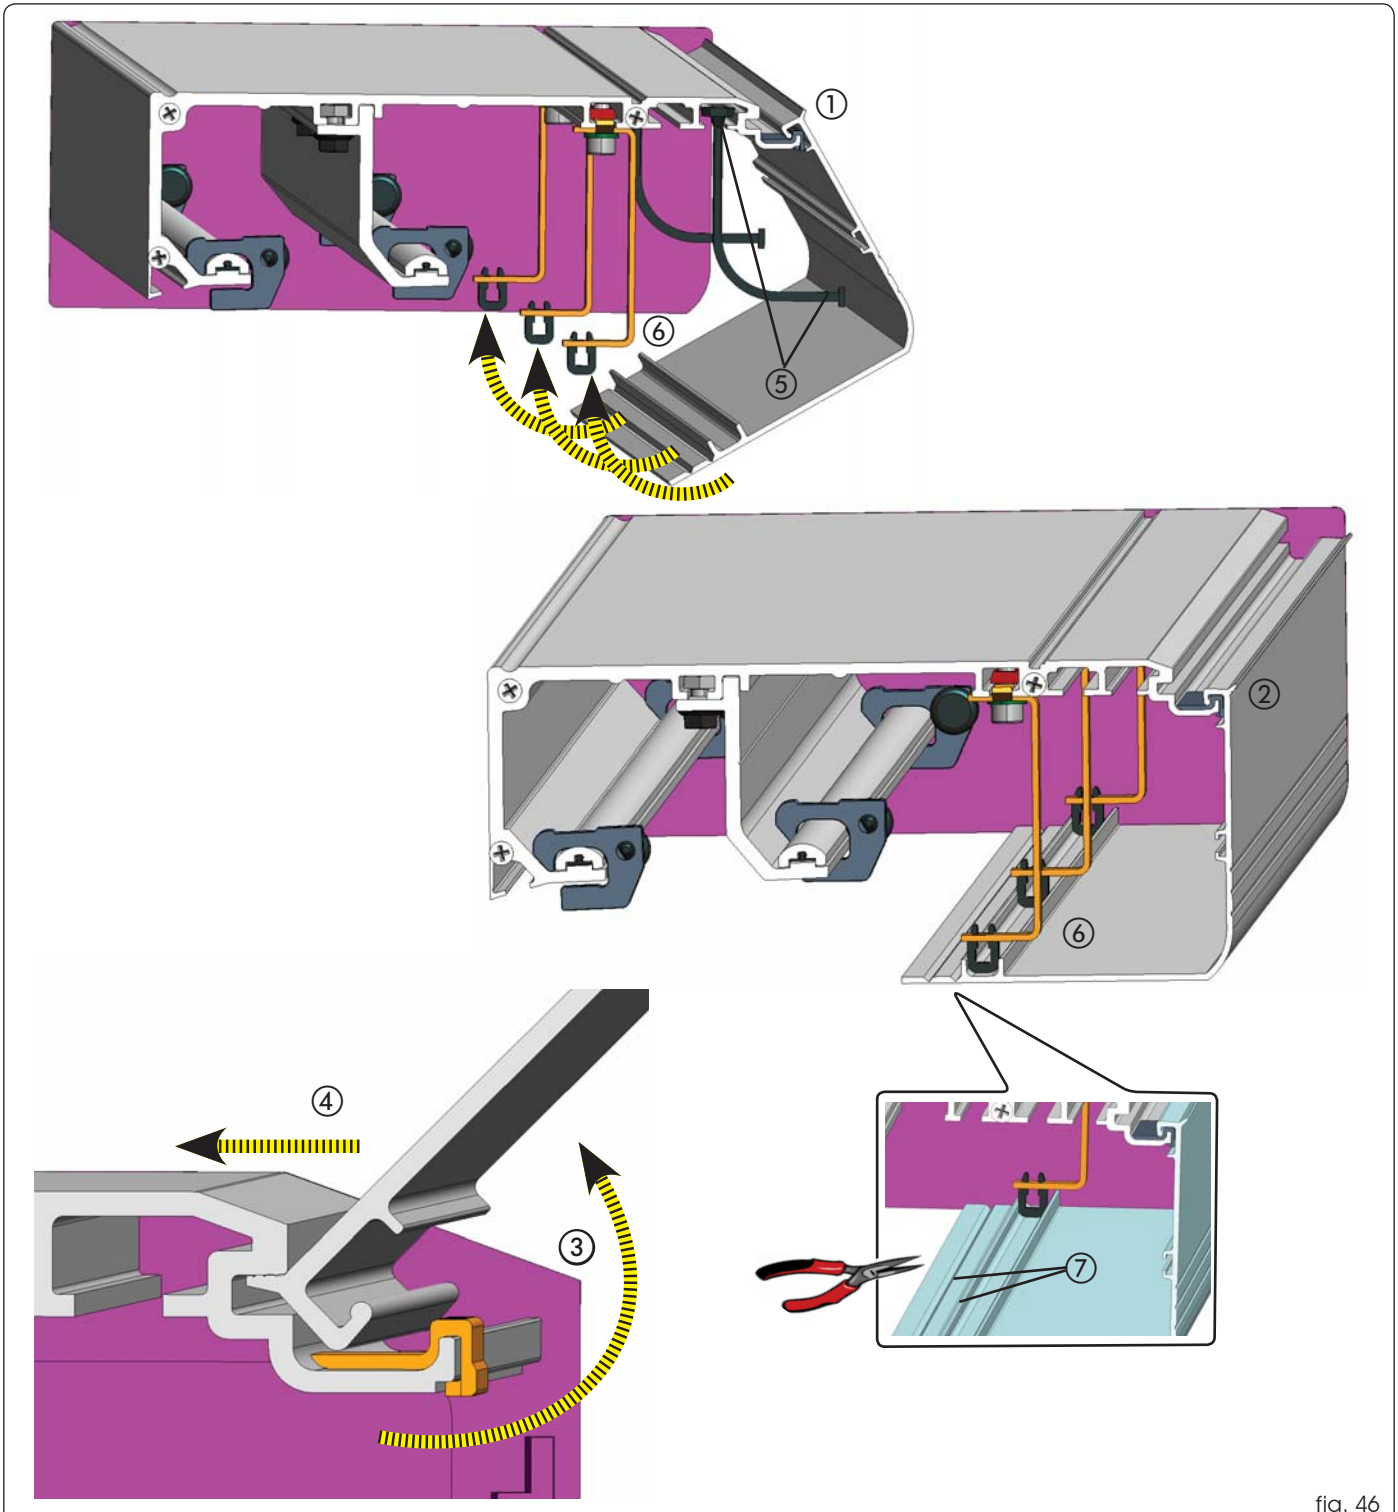

fig. 46
- Lay the closing housing on the spacers you had previously mounted, as shown in Fig. 46 ① or ②.
- To keep the housing open, lift it (Fig. 46 ref. ③) and push it (Fig. 46 ref. ④) toward the profile until the metal protrusion fits in the profile seat.
- Secure the parachute cables in the appropriate seats (Fig. 46 ref. ⑤)
- The closing housing is secured in correspondence with the 3 securing brackets (fig. 46 ref. ⑥).
- The closing housing is pre-marked to adapt it to different leaf thickness values. Eliminate excess profile by cutting at the points indicated in fig. 46 ref. ⑦.